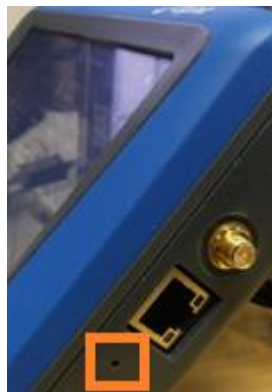

Figure 3-21 Right side of Centauri Meter with pinhole highlighted
4. Insert a pin in the pinhole (see Figure 3-21) to access the micro-switch.